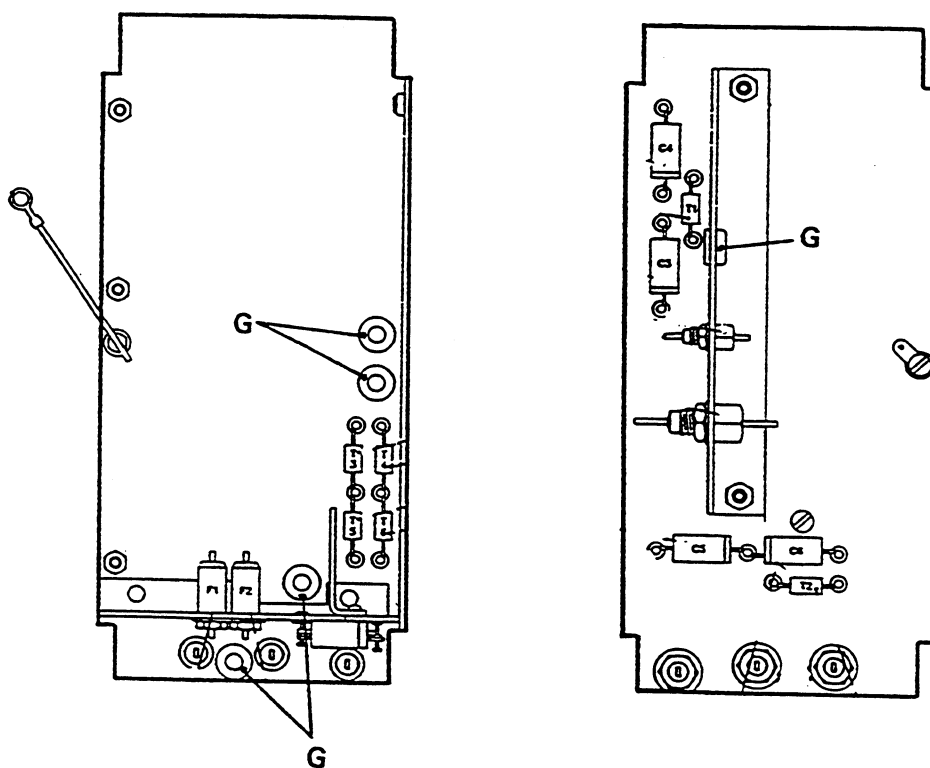

Figure 1 Power Supply/Filter Assembly - Grommet Positions
- (1) Remove three M3 screws (150), two M3 nuts (155), two lock washers (160) and two plain washers (165) which secure the power supply module (145) to the power supply/filter assembly (135).
- (2) Refer to Fig. 1 of this Service Bulletin and identify the five grommets (letter G). At this stage you should be able to gain access to all five grommets without further disassembly.